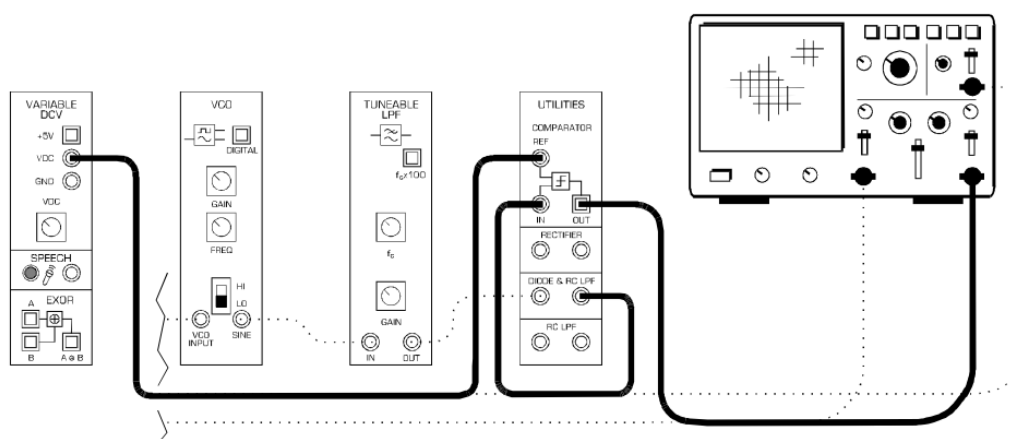

Figure 28:
21. Modify the setup as shown in Figure 28.